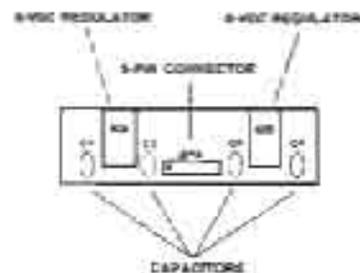

Figure 4-1. Linear regulators PCB (model 750M)
(2) Battery compartment bracket.
(3) *Linear regulators PCB (fig 4-1)*